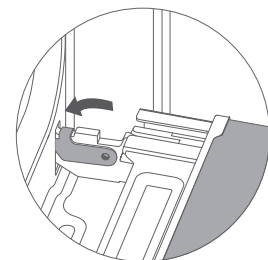

Fig.3
7. After closing the locking levers to the right and left by pushing them inwards as shown in Fig.3, if the oven door is mounted correctly you can close it without any problem; in addition to closing it correctly if the oven door is mounted correctly it must leave the ventilation slots between the door glass and control panel free.